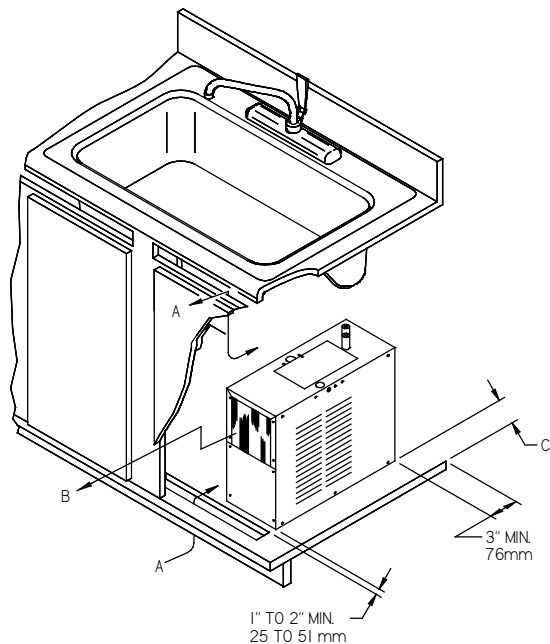

Fig. 4
1. This unit is intended to be installed underneath a conventional kitchen sink, in a cabinet not less than 36" (914mm) wide (inside dimension). Two air openings with a minimum of 40" square (1016mm/square) each, minimum of 75% open area, must be provided in the cabinet. One opening must be in the overhang of the toe space. The other opening near the top of the cabinet. The remote unit must be installed with a minimum of 3" (75mm) clearance between the unit and the rear wall of the cabinet. It can be installed flush against either side wall of the cabinet. The side louvers which are not against the cabinet must not be blocked by objects located within 4" (102mm) of the louvers. In addition, a minimum of 1" to 2" (25mm to 51mm) clearance must be provided between the toe space air opening and front of the unit. (See Fig. 4)